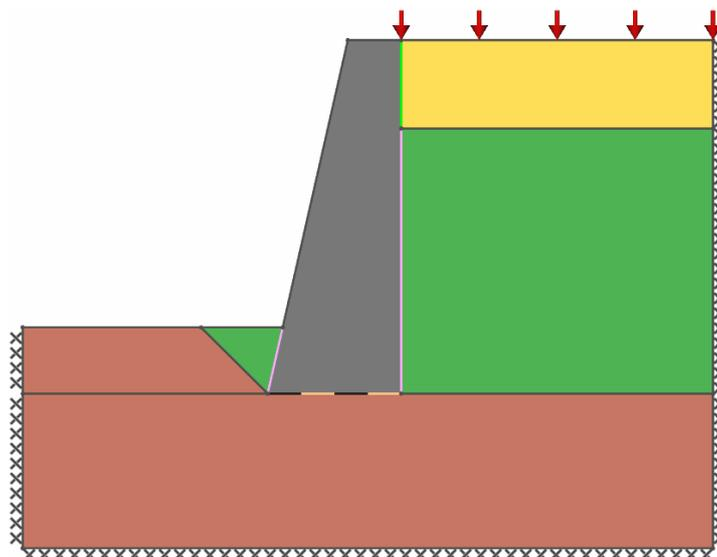

Figure 1: Gravity wall problem geometry
The specified problem depicted in Figure 1 involves analysis of an 8 m high wall with vertical back retaining 6 m of dense gravel overlain by 2 m of loose sand. The surface of the sand is level with the top of the wall and supports a surcharge of 5 kN/m². The wall and the layer of dense gravel are underlain by stiff clay. The problem is to be checked against Eurocode 7 Design Approach 1 Combination 1 and 2 requirements for long and short term conditions. Passive resistance of the soil in front of the wall is to be included.
12. Create a block of Dense Gravel in front of the wall. Create a **Vertex** using the toolbar function at coordinates ($x = 4.0$, $y = 5.0$). Draw a line (using) connecting the created **Vertex** and the toe of the wall to split the left hand surface soil layer into two parts. Apply the pre-defined **Stiff Clay** material to the left hand **Solid** of the two (the model should now look similar to Figure 1, apart from choice of colours).